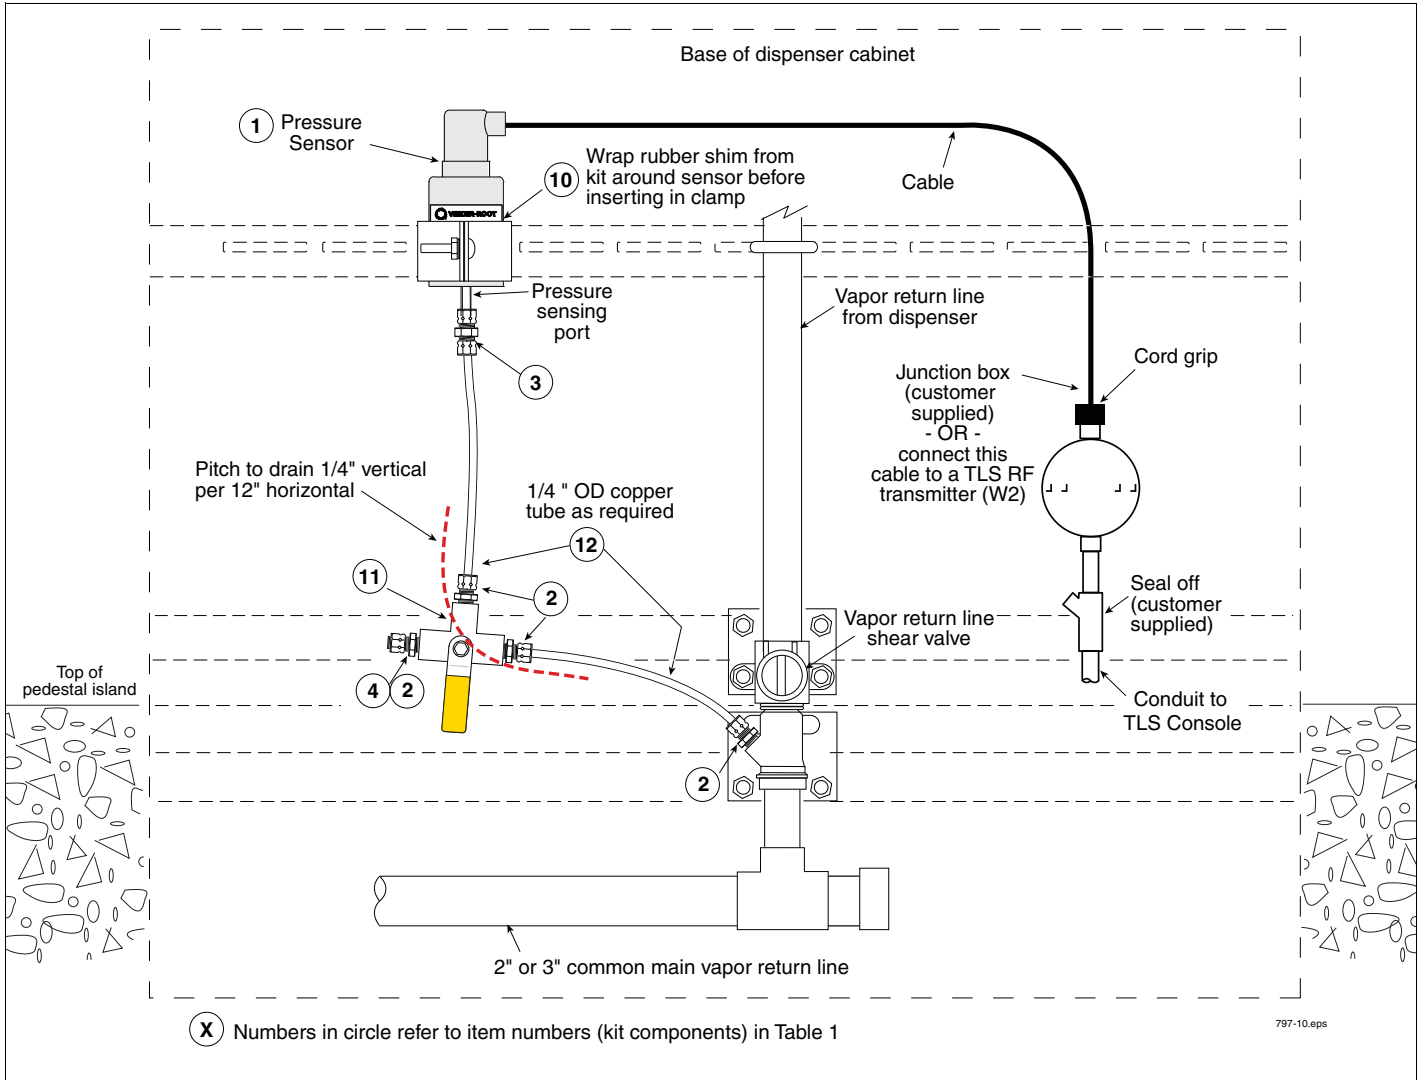
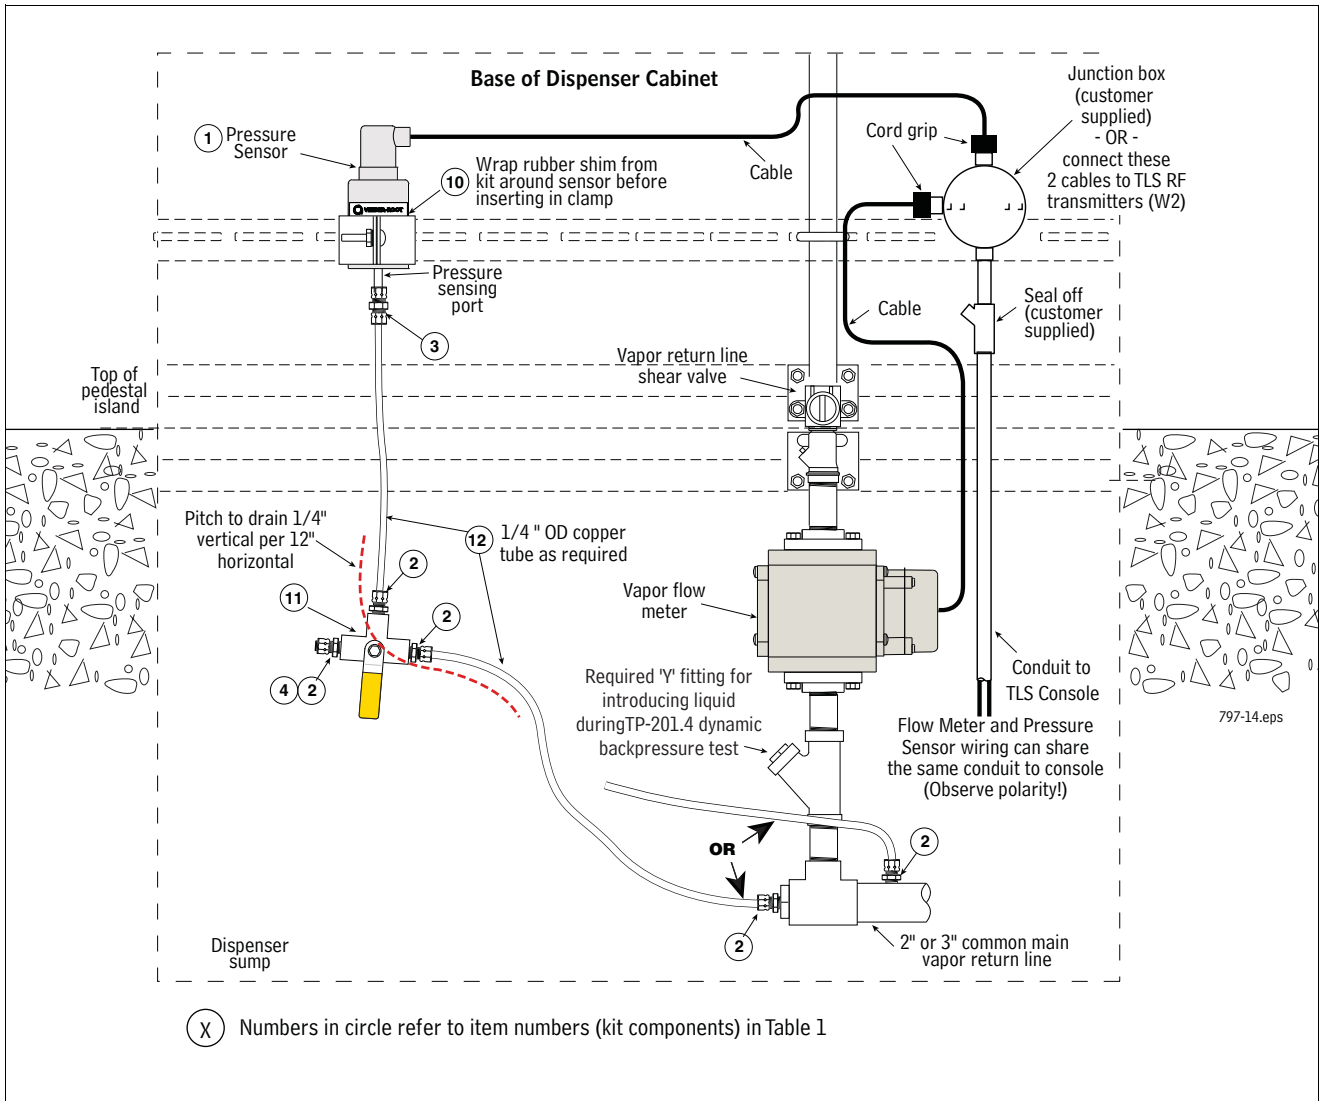
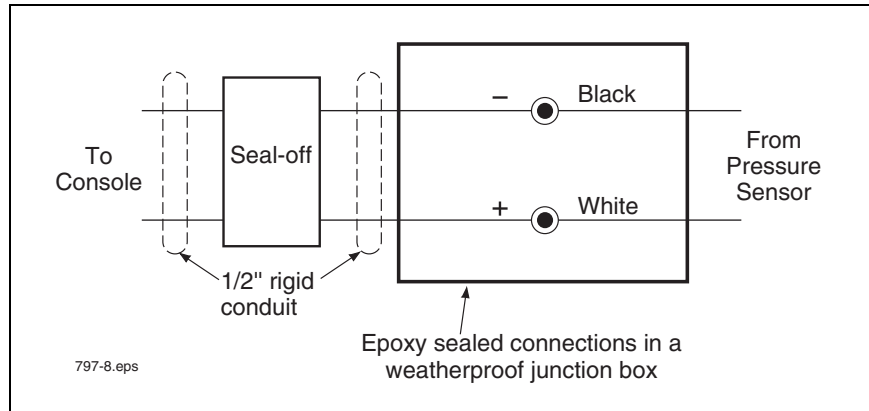

Figure 2. Example Pressure Sensor Install In Shear Valve Port - Preferred Non-ISD Installation (Without Vapor Flow Meter)
Figure 6. Example Pressure Sensor Install Below Vertical Access Fitting Or Vapor Return Line - ISD Installation (With Vapor Flow Meter Below Shear Valve)
Figure 7. Field wiring Pressure Sensor - Observe Polarity
3. Refer to Pressure Sensor dispenser installation examples in Figure 2 through Figure 6 to locate a suitable port or plumb a suitable fitting for the Pressure Sensor tubing in either the vapor return shear valve or in the
4. Install one of the 68CA-4-4 male connectors (item 2 in Table 1) from the kit into the tapped hole.
5. Install Pressure Sensor (item 1 in Table 1) vertically to the dispenser frame or piping using the 2-inch conduit clamp, rubber shim, and necessary bolts, nuts, and washers from the included Universal Sensor Mounting kit. Wrap the rubber shim (item 10 in Table 1) around the sensor before inserting it into the clamp. Also make sure the sensor cable outlet is facing up and the pressure sensing port tube in the base of the sensor is facing down.
6. Attach one end of the 62CA-4 union (item 3 in Table 1) to the pressure sensing port in the base of the Pressure Sensor.
7. Install the remaining 68CA-4-4 male connectors (item 2 in Table 1) from the kit into each of the three ports in the 3-way calibration valve (item 13 in Table 1).
8. Measure, fabricate, and install a 1/4" OD copper tube (item 12 in Table 1) that runs between the 62CA-4 union in the base of the sensor and the center port of the 3-way calibration valve.
9. Measure, fabricate, and install a 1/4" OD copper tube that runs between the 1/4" tube end of the male connector fitting installed beneath the shear valve mechanism and the right port on the 3-way valve, being careful not to create any potential liquid traps (Note 3-way valve orientation in Figure 6).
10. Screw the 59CA-4 plug, item 4, from the kit onto the left port's male connector. Make sure the valve's handle is set to connect the sensor to the vapor return line and not to the capped (ambient) port.
11. Route the cable from Pressure Sensor to the Pressure Sensor junction box in the dispenser. Observing polarity, connect the sensor wiring to the field wiring from console and cap with wire nuts (see Figure 7) - OR - terminate the wiring in the TLS RF transmitter (W2). In wireless installations, the wiring is not sealed and does not run back to the TLS console and Steps 12, 13 and 14 ARE NOT REQUIRED.
6. Install one 68CA-4-4 male connector (item 5 in Table 2) into the center port of the 3-way calibration valve, and then directly attach it to the pressure sensor inlet port (see Figure 7).